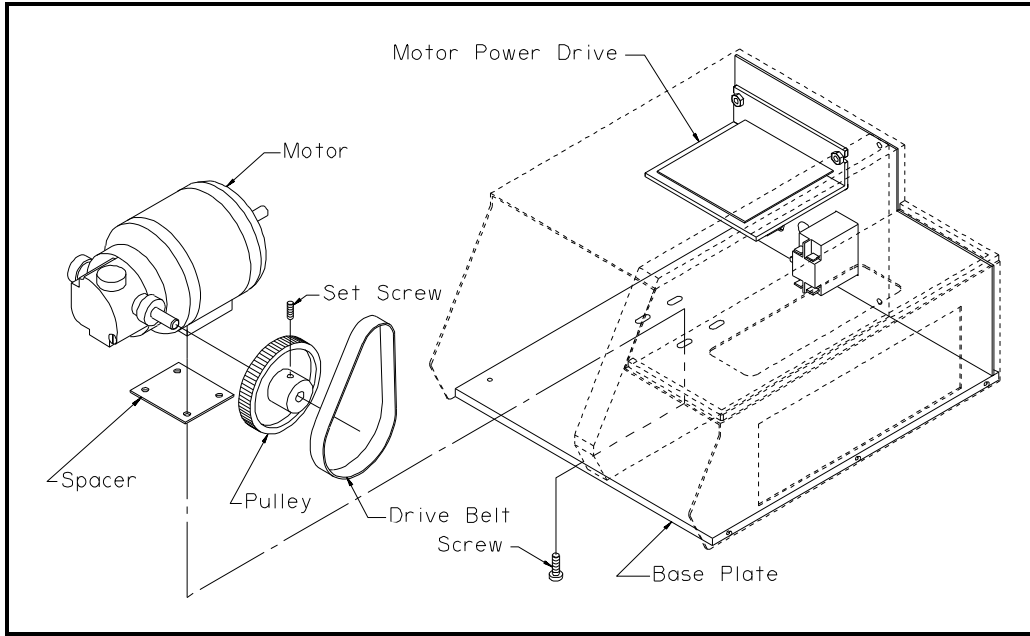

Figure 5: Motor Diagram
2. Remove the two screws (3000S104) securing the front panel (see Figure 5).